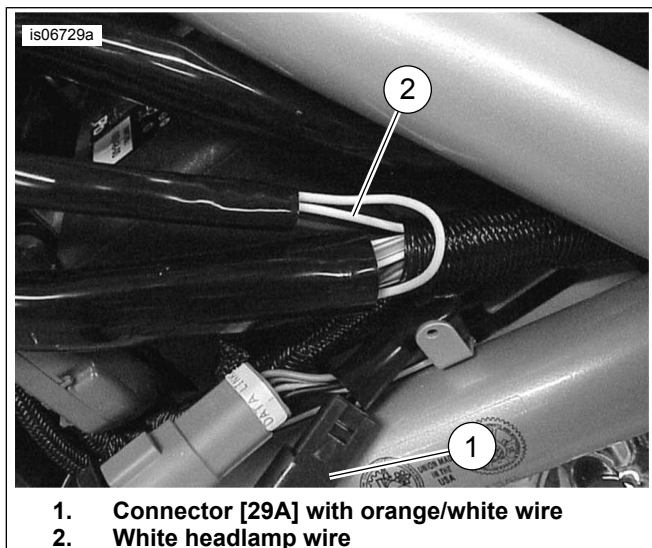
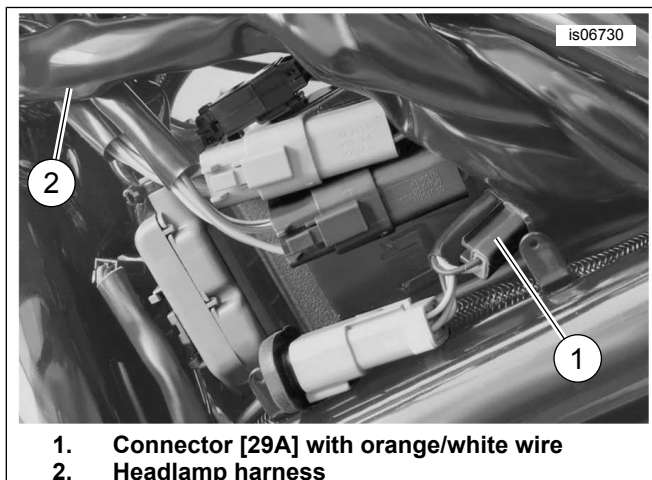

Figure 28. Wire Splice Locations (2002-2003 V-Rod)
Figure 29. Wire Splice Locations (2004 V-Rod)
1. See Figure 28 or Figure 29. Cut the orange/white main vehicle harness wire near the unused position lamp connector [29A] (1).